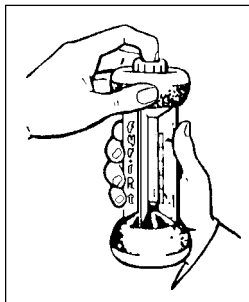

Figure 4
4. Hold FYRITE in upright (Fig. 4) position and away from face. Depress Plunger Valve (momentarily) and release.
4. Hold FYRITE in upright (Fig. 4) position and away from face. Note fluid level in column. Depress Plunger Valve (momentarily), and release.